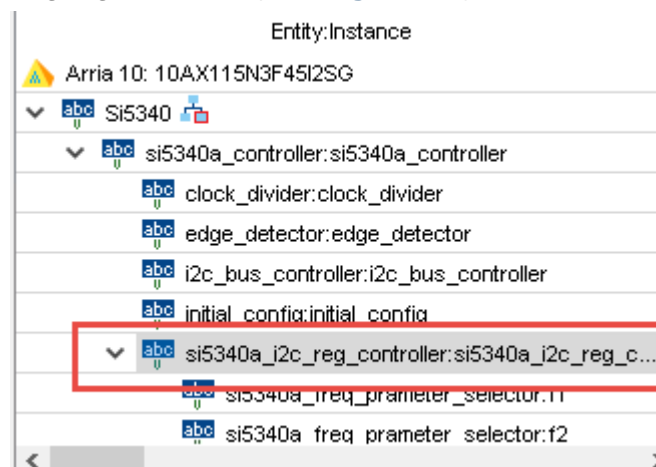
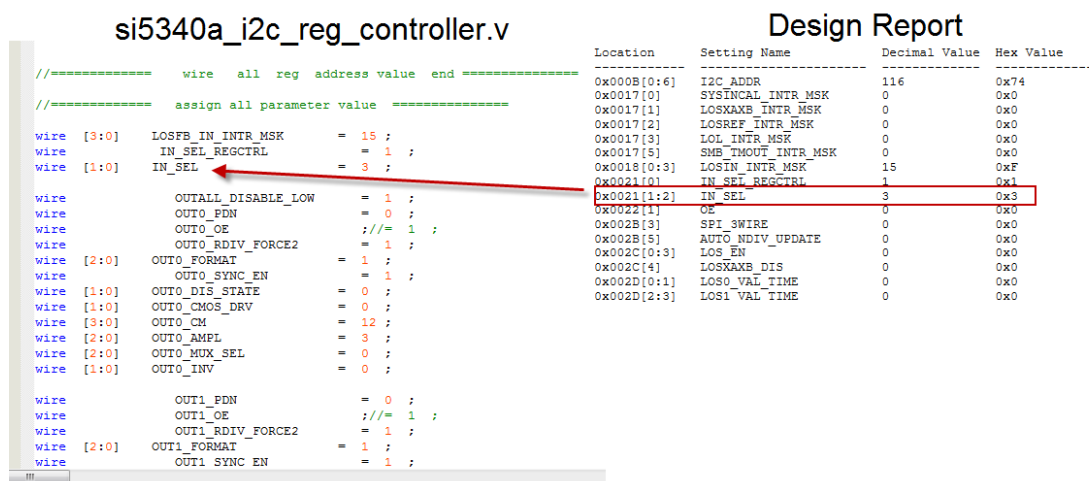

Figure 5-8 Sub-Module file “si5340a_i2c_reg_controller.v”
Figure 5-9 Modify Si5340 Control IP Base on Design Report
- Open Si5340 control IP sub-module “si5340a_i2c_reg_controller.v” as shown in **Figure 5-8**, refer Design Report parameter to modify sub-module corresponding register value (See **Figure 5-9**).